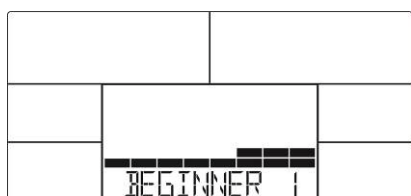

Fig. 11
2. Select one of the pre-set programmes (1–4) with the UP/DOWN buttons and confirm the selection with the MODE button (Fig. 11–13).